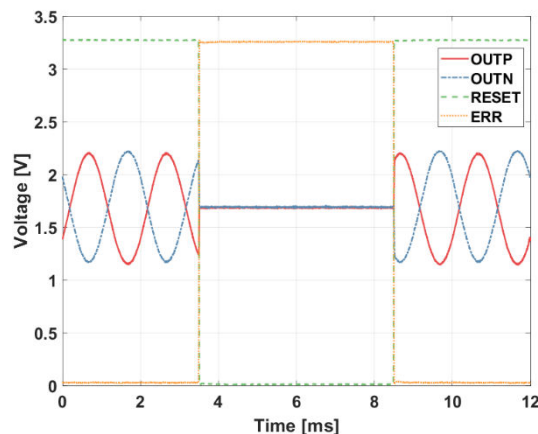

Figure 16: Typical sensor reset sequence with external reset
An external reset can be activated by the user through the RESET input pin. During a reset phase, the accelerometer outputs (OUTP & OUTN) are forced to  $V_{DD} / 2$  and the error signal (ERR) is activated (high), see Figure 16.
- During external reset phase (user activation of the reset, See Figure 16)